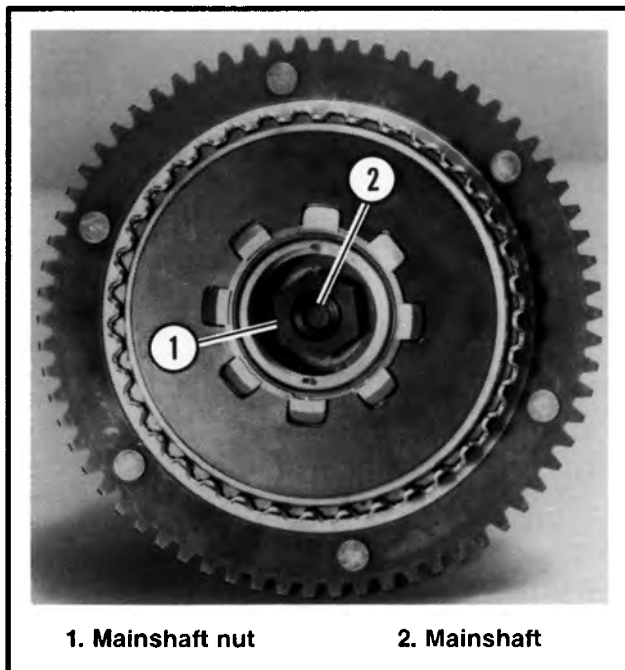

Figure 6-32. Mainshaft Nut Removal
3. See Figure 6-32. Place transmission in 5th gear and apply rear brake. Remove nut (1) from the end of transmission main shaft using a 1-3/16 in. socket. **The nut and shaft have left hand threads.**
2. See Figure 6-32. Apply two drops of LOCTITE® 262 to the threads of nut (1). Thread nut (1) onto shaft turning in counterclockwise direction because of left hand thread. Tighten nut to a torque of 70-80 ft-lbs.